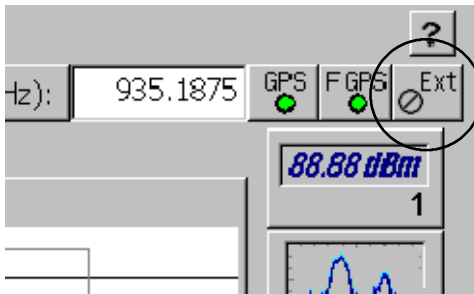
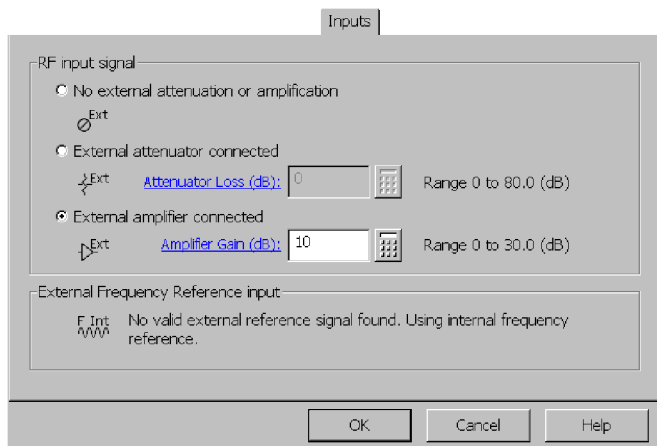

Figure 2-6: Location of RF Input Signal status button
Figure 2-7: Changing RF input settings
- a. Tap the **RF Input Signal** status button (see Figure 2-6) to display the **Inputs** tab (see Figure 2-7).